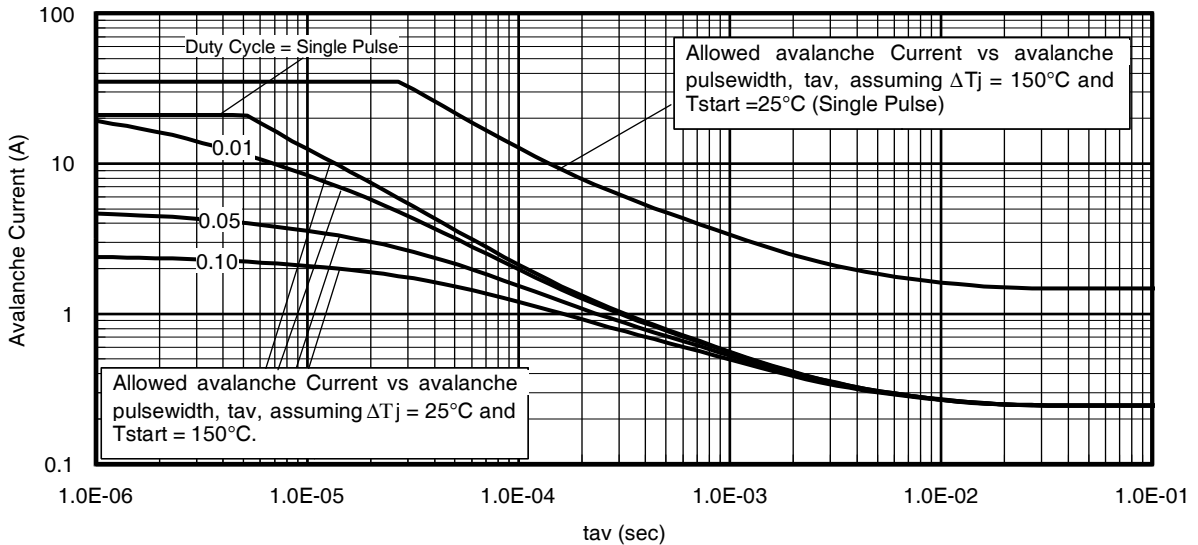

Fig 14. Typical Avalanche Current Vs. Pulsewidth
- ① Repetitive rating; pulse width limited by max. junction temperature.
- ② Starting  $T_J = 25^\circ\text{C}$ ,  $L = 0.51\text{mH}$ ,  $R_G = 25\Omega$ ,  $I_{AS} = 21A$ .
- ③ Pulse width  $\leq 400\mu s$ ; duty cycle  $\leq 2\%$ .
- ④  $R_{\theta}$  is measured at  $T_J$  of approximately  $90^\circ\text{C}$ .
- ⑤ Limited by  $T_{jmax}$ . See Figs. 14, 15, 17a, 17b for repetitive avalanche information
**Notes on Repetitive Avalanche Curves, Figures 14, 15:**
7.  $\Delta T$  = Allowable rise in junction temperature, not to exceed  $T_{jmax}$  (assumed as 25°C in Figure 14, 15).